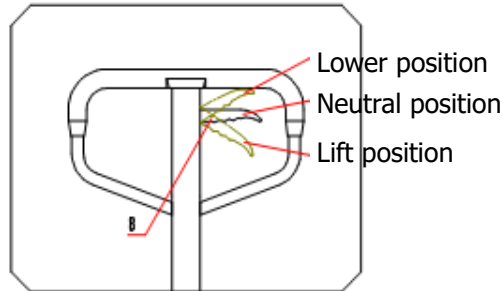

Fig. 4
- 2.1.7 Use the handle to shake it, and operate and control the different gears of knob 8 to see whether the car rises, neutral and falls normally. See Fig. 4.